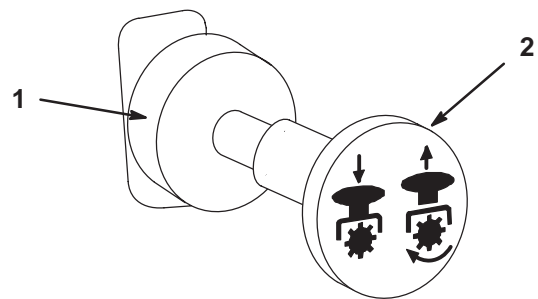

Figure 7
- Pull out on the power take off (PTO) switch to engage (Fig. 7).
- To disengage push the PTO switch to the “OFF” position (Fig. 7).